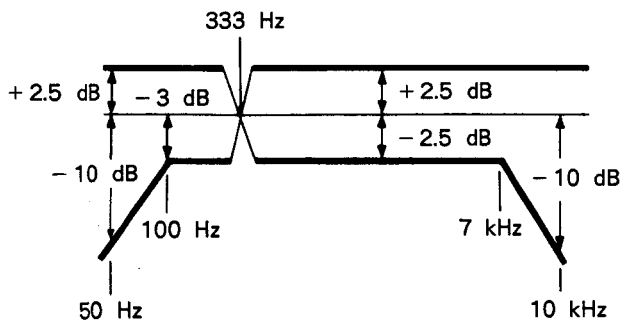

Fig. 8-34. Overall frequency characteristic
Specified Value	See Fig. 8-34.
- 1) Connect jumper between Pin ② of IC901 and GND and turn the AGC operation OFF.
- 5) Alter the frequency to 50 Hz, 100 Hz, 7 kHz, and 10 kHz, and repeat items 3) and 4).
- 6) Play back the recorded section and confirm that the respective output levels are within the specification. (See Fig. 8-34.)